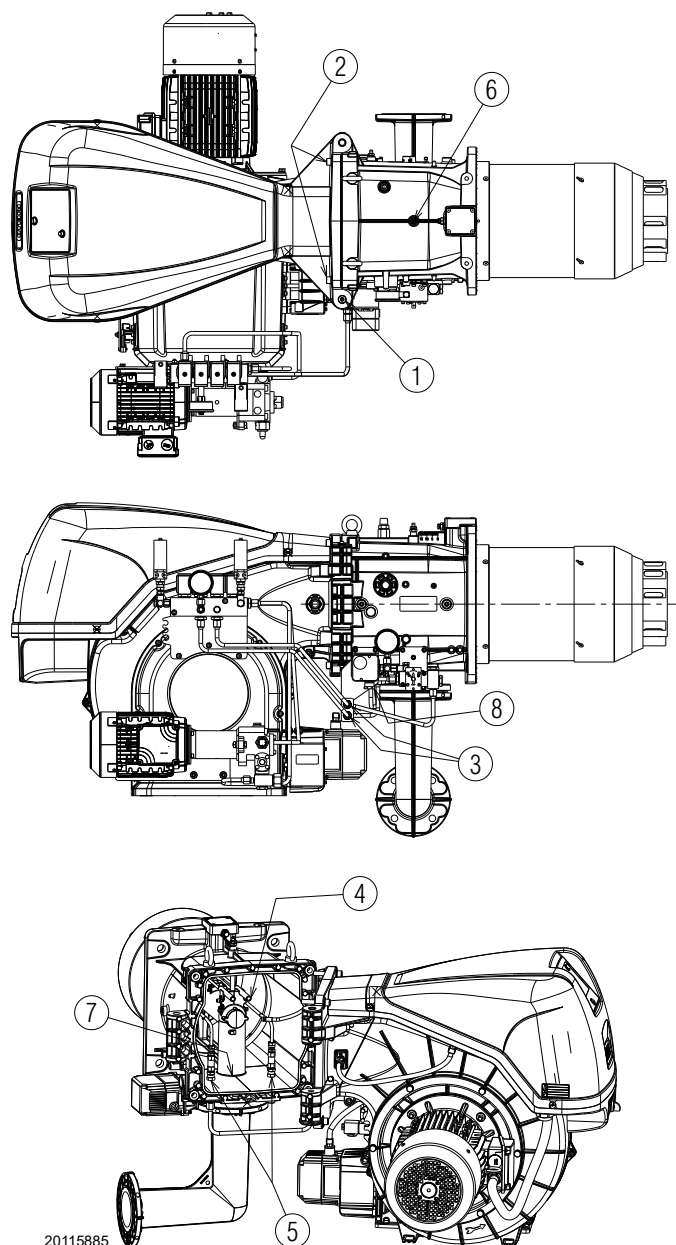

Fig. 13
The burner leaves the factory set for opening to the right, therefore maintaining the pin 1)(Fig. 13) in its housing.
- D fully open the burner as in Fig. 13;
To open the burner from the opposite side, before removing the pin 1)(Fig. 13), make sure that the 4 screws 2) are tight.
Disconnect the socket 8)(Fig. 13) of the maximum gas pressure switch, then proceed as described above at point C).